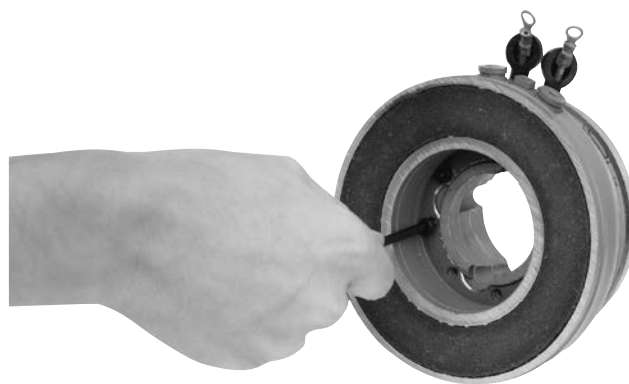

Figure 2
3. Mount the magnet to the magnet hub using capscrews and lockwashers. (Figure 2)